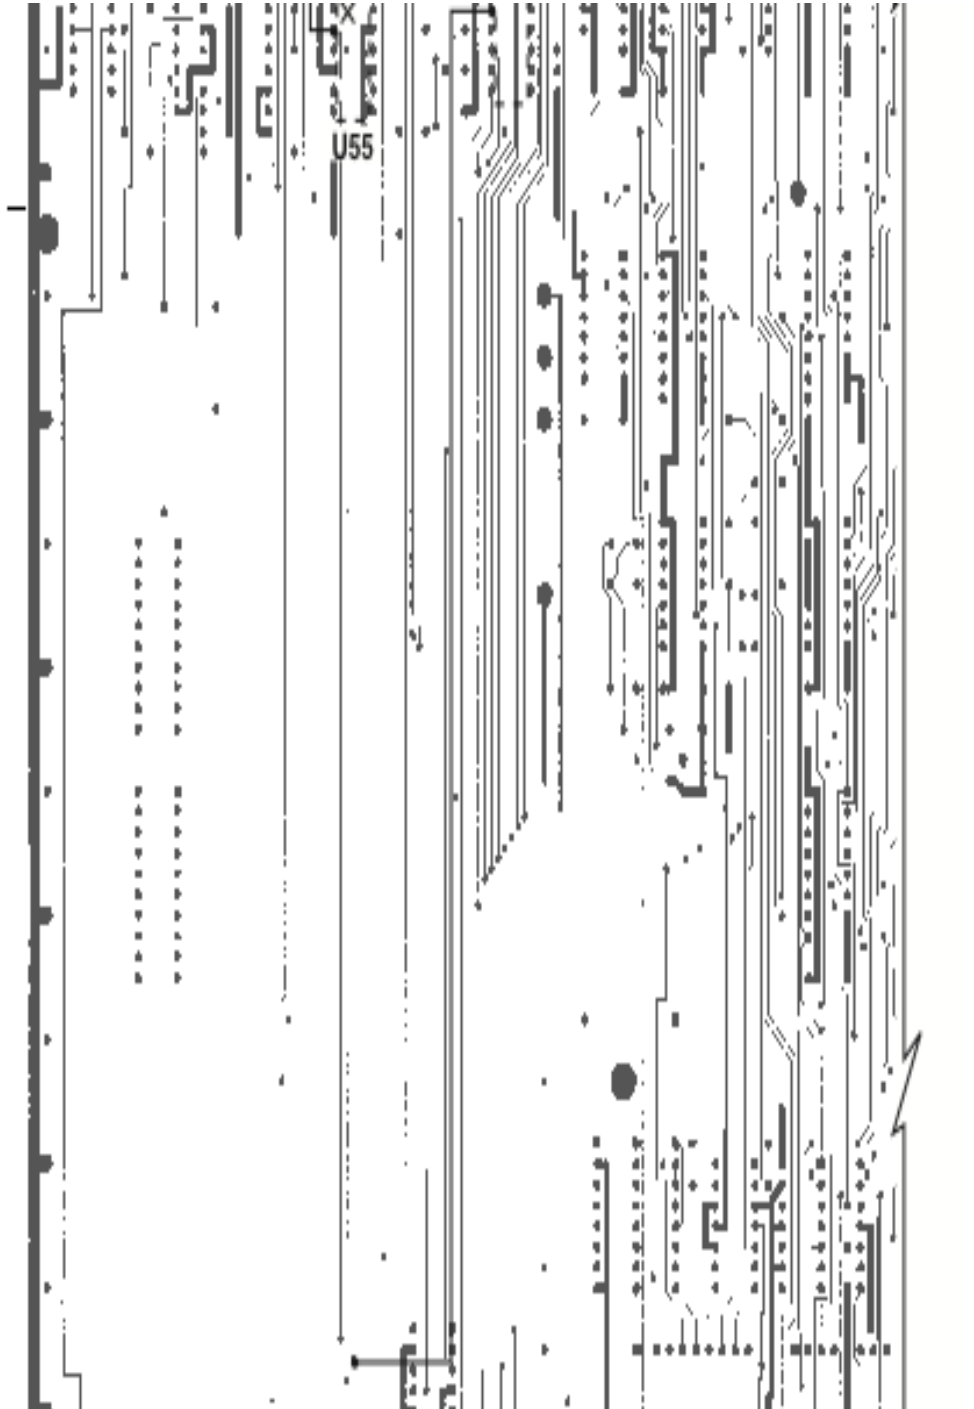

Figure 3. Solder Side Modifications
8. The solder side of the board will be exposed. Cut the trace at U55 pin 13 as shown in Figure 3.
9. Solder two jumpers onto the solder side of the main board as shown in Figure 3: